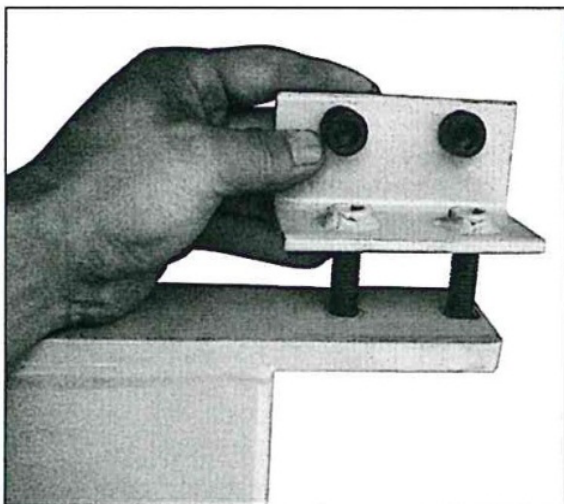

Figure 5-2
1. The bender may be mounted to anything rigid enough not to twist or move during the bending operation or clamped in a standard bench vise. If you purchased the pedestal, position the pedestal adapter onto the stand as in fig 5-2. Tighten supplied nuts from bottom side of base.